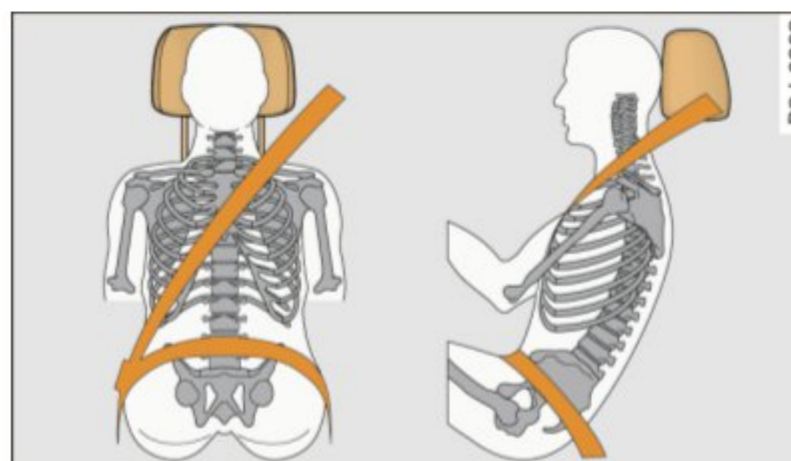

Fig. 182 Head restraint and safety belt position as seen from the side
- The safety belt must lie flat and snug on the occupant's upper body ⇒ *fig. 182*. Pull on the belt to tighten if necessary. ▶
- The lap belt portion of the safety belt must be positioned as low as possible across pelvis and never over the abdomen. Make sure the belt lies flat and snug ⇒ fig. 182. Pull on the belt to tighten if necessary.